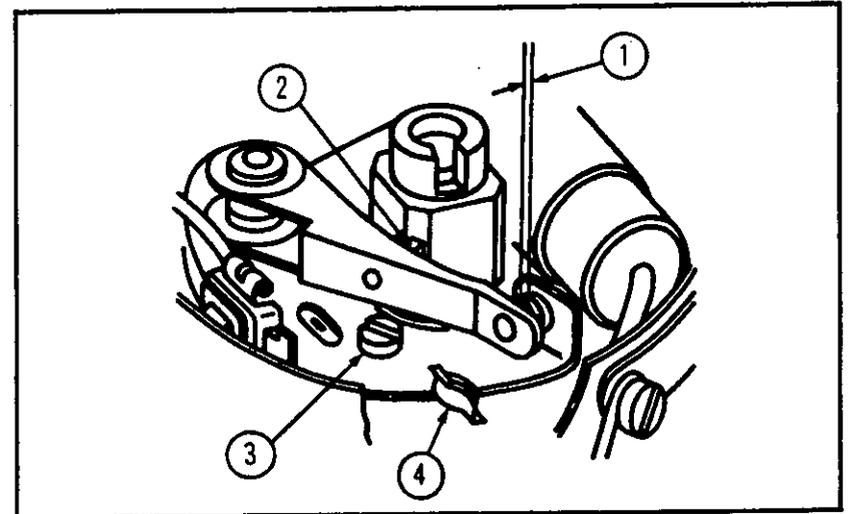

Fig. 14 To check distributor contact breaker points gap
When the contact breaker points gap (1, fig. 14) is adjusted, turn the crankshaft in the normal direction of rotation until the heel of the breaker lever is on the peak of one of the cam lobes (2). Release the fastener screw (3) from the contact breaker plate and use a screwdriver blade in the slot (4) provided to set the points gap to 0,38 mm (0.015 in).